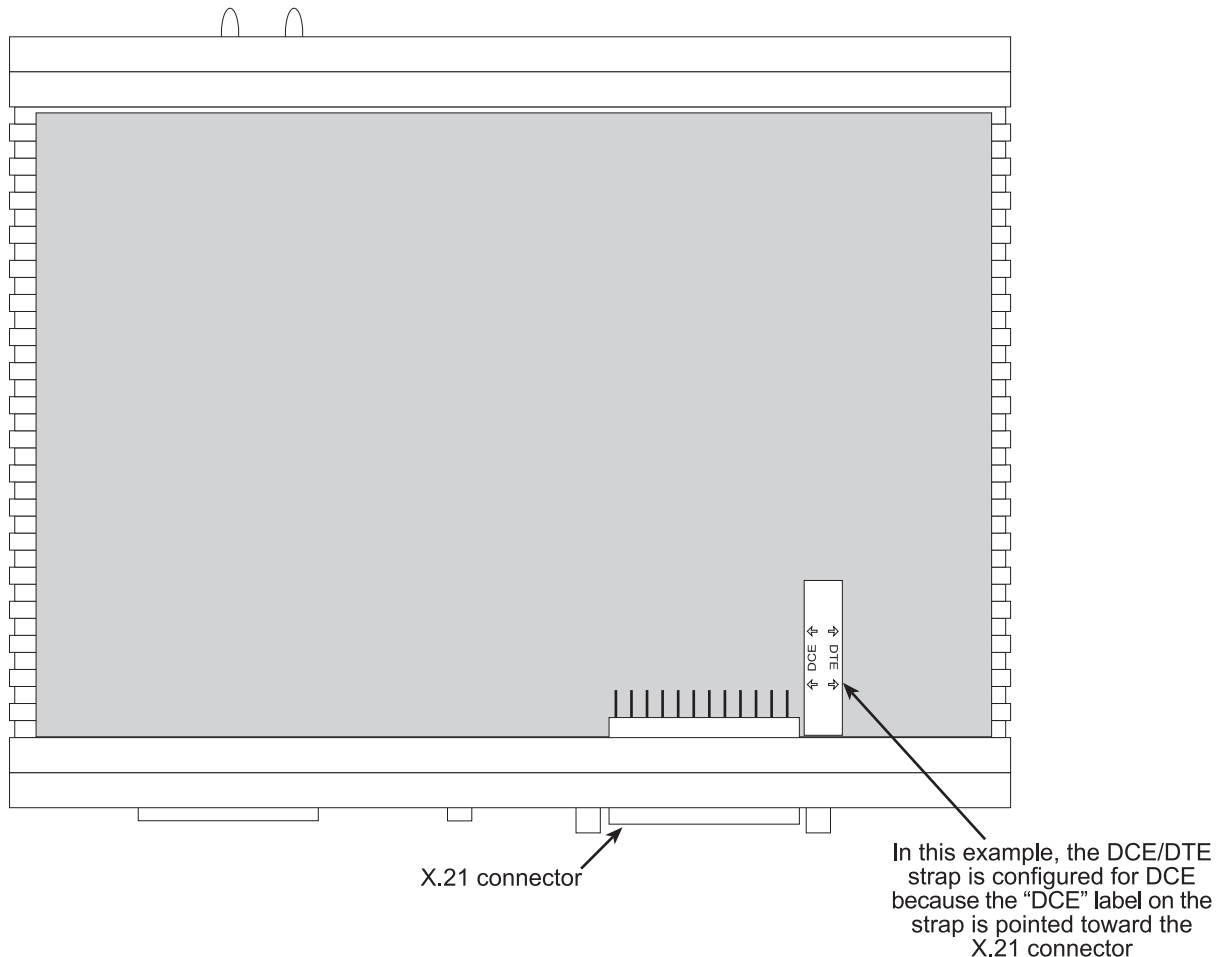

Figure 10. Location of DCE/DTE board
2. Locate the small daughter board on the 3086FR board between the DSL port (RJ-45) connector and the serial port connector (Figure 10 shows location of DTE/DCE daughter board).